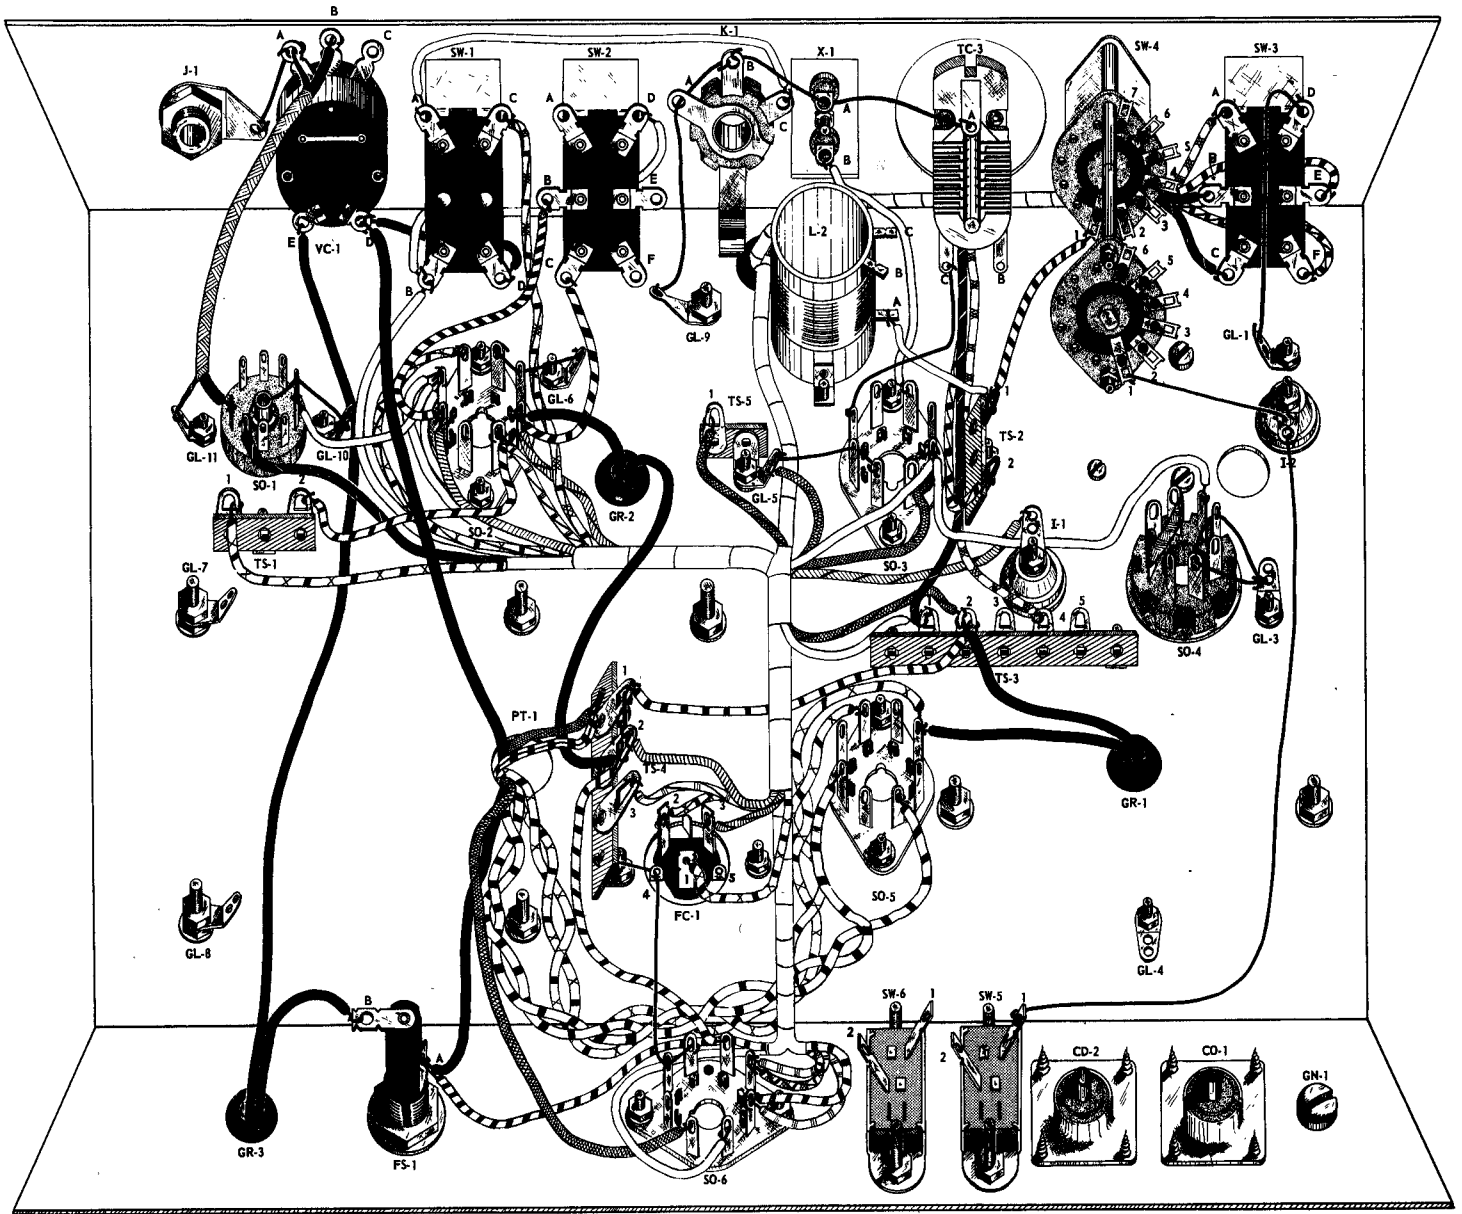
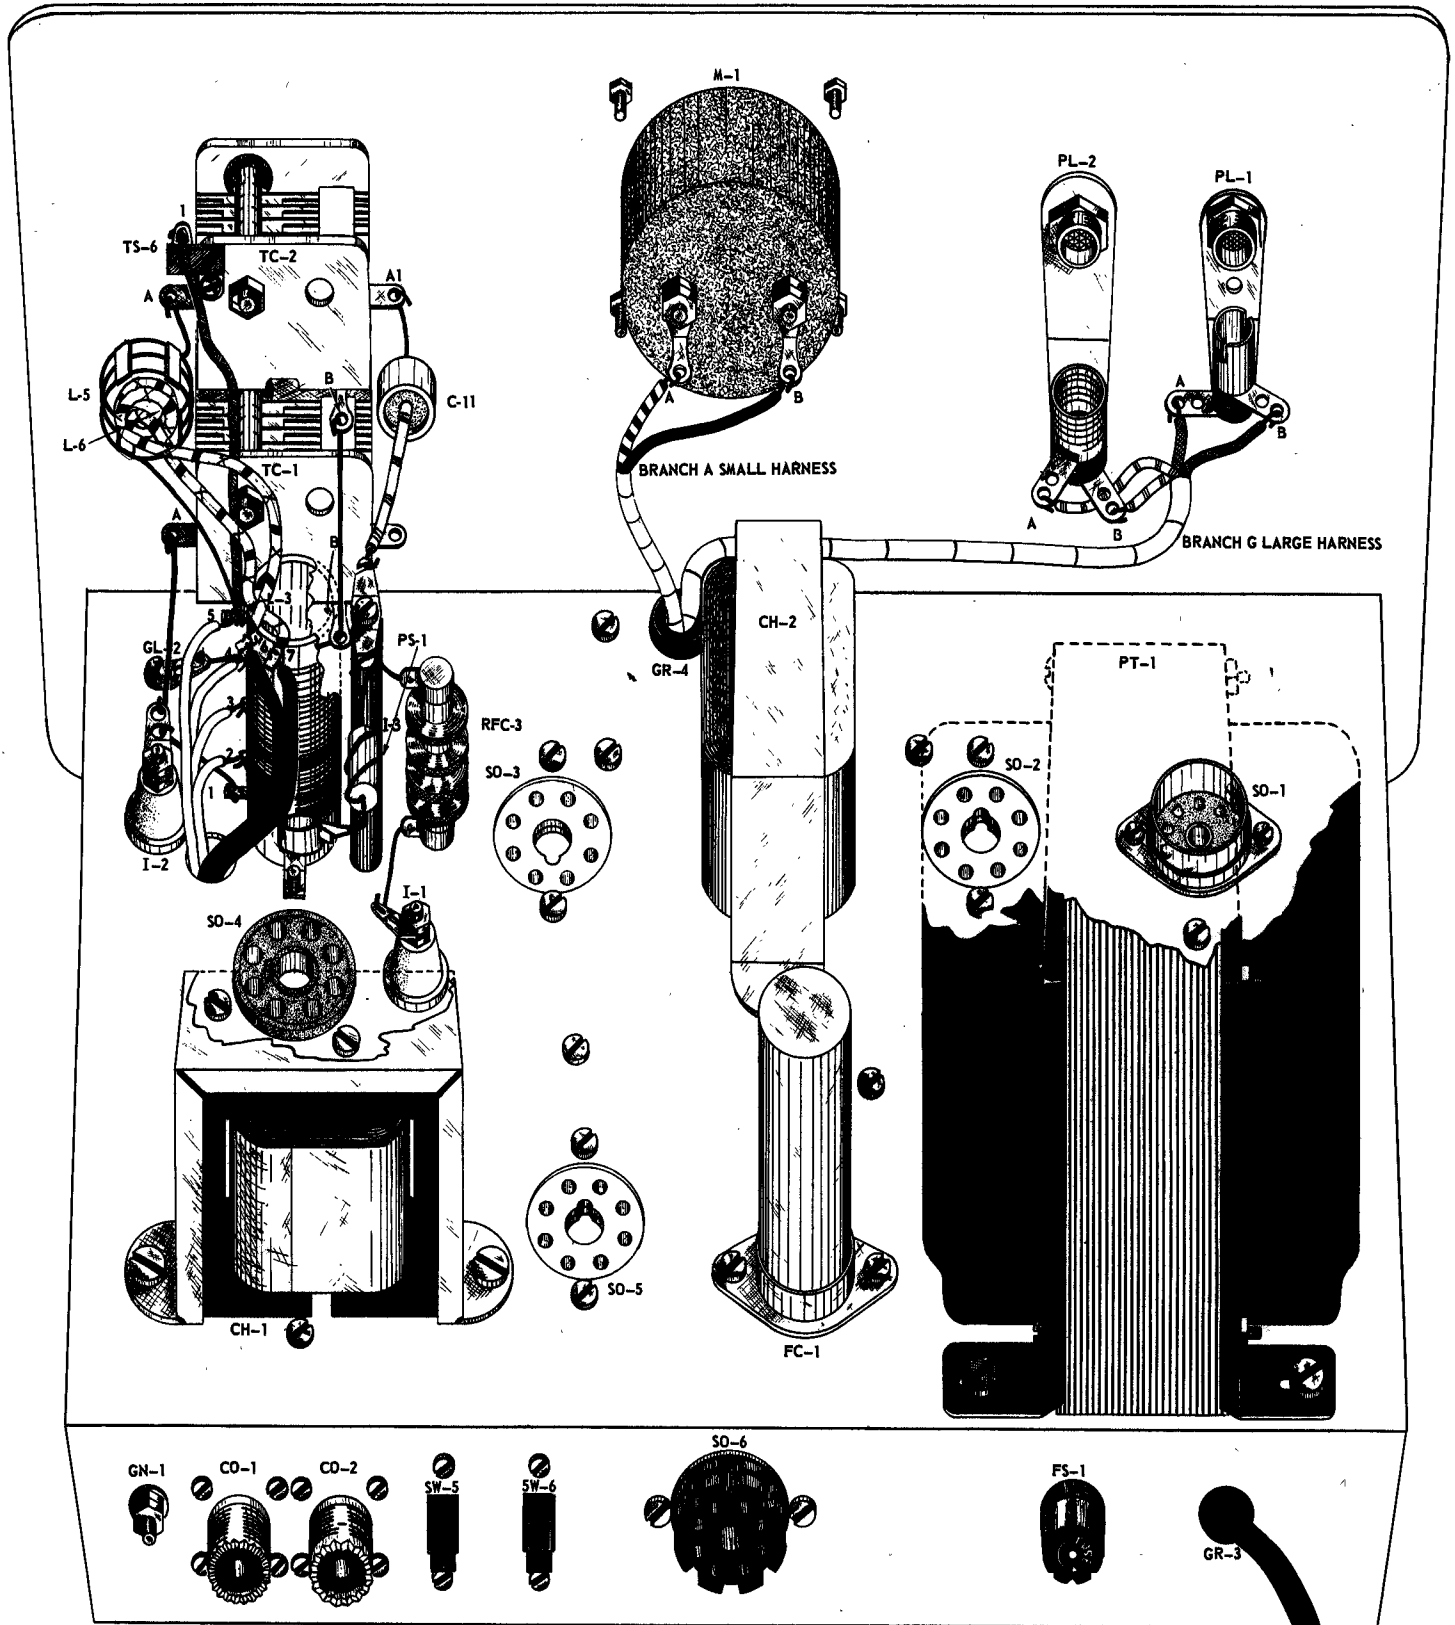

Figure 17. Wiring, Steps 1 through 103.
Figure 19. Top Of Chassis Wiring.
- 1. Place the chassis on a table, bottom side up with the rear apron of the chassis towards you as per Fig. 17.
- 3. Select one of the two BLACK leads. Route it back towards the fuse holder FS-1. Trim this lead to length and remove  $\frac{1}{4}$ " of insulation from the end. Connect the trimmed end of the lead to lug A of fuse holder FS-1. Fasten securely. (NS).
- 4. Route the other BLACK lead of transformer PT-1 toward the front of the chassis to lug D of the switch cover on VC-1. Trim this lead to length and remove  $\frac{1}{4}$ " of insulation from the end. Connect the trimmed end of the lead to lug D of VC-1. Fasten securely. (NS).
- 6. Connect one of the RED wires to pin 4 of socket SO-5. (S).
- 7. Connect the other RED lead to pin 6 of socket SO-5. (S).
- 20. Install the large harness assembly in the chassis as shown in Fig. 17. Route branch G through grommet hole GR-4 over to pilot lamp assemblies PL-1 and PL-2.
- 21. Route the heavy white lead in branch C around accessory socket SO-6 to pin 6 of this same socket. Trim the lead to length. Remove  $\frac{1}{4}$ " of insulation from the end and connect to pin 6 of socket SO-6. (S).
- 22. Select the red lead of branch C. Route this lead to lug A of the fuse holder FS-1. Trim to length and remove  $\frac{1}{4}$ " of insulation from the end. Connect to lug A of the fuse holder FS-1. (S).
- 23. Route a red lead and a blue lead of branch D to pin 5 of SO-6. Trim to length and remove  $\frac{1}{4}$ " insulation from the end of each lead. Connect both leads to pin 5 of SO-6. (S).
- 24. Route the two remaining leads of branch D to pin 4 of SO-6. These are the blue lead and the white lead with violet tracer. Trim the leads to length and remove  $\frac{1}{4}$ " insulation from the end of each lead. Connect both leads to pin 4 of SO-6. (S).
- 25. Route the yellow lead of branch B to lug 1 of filter condenser FC-1. Trim the lead to length and remove  $\frac{1}{4}$ " insulation from the end. Connect the lead to lug 1 of FC-1. (S).
- 26. Select the white lead with yellow tracer from branch B. Route to lug 2 of filter condenser FC-1. Trim to length and remove  $\frac{1}{4}$ " insulation from the end. Connect to lug 2 of FC-1. (S).
- 27. Select the white lead with black tracer from branch B. Route to lug 3 of filter condenser FC-1. Trim to length and remove  $\frac{1}{4}$ " insulation from the end. Connect to lug 3 of FC-1. (S).
- 28. Select the white lead with blue tracer from branch B. Route to lug 3 of tie strip TS-4. Trim to length and remove  $\frac{1}{4}$ " insulation from the end. Connect to lug 3 of TS-4. (NS).
- 29. Route the remaining lead of branch B (brown lead) to lug 2 of tie strip TS-4. Trim to length and remove  $\frac{1}{4}$ " insulation. Connect to lug 2 of TS-4. (NS).
- 30. Route the white lead of branch E to to lug 1 of tie strip TS-3. Trim to length and remove  $\frac{1}{4}$ " insulation from the end. Connect to lug 1 of TS-3. (NS).
- 40. Route the white lead with yellow tracer of branch A to pin 8 of socket SO-2. Trim to length and remove  $\frac{1}{4}$ " insulation from the end. Connect to pin 8 of SO-2. (NS).
- 41. Route the brown lead of branch H to to pin 6 of socket SO-2. Trim to length and remove  $\frac{1}{4}$ " insulation from the end. Connect to pin 6 of SO-2. (NS).
- 42. Route the white lead of branch H to lug B of switch SW-1. Trim to length and remove  $\frac{1}{4}$ " insulation from the end. Connect to lug B of SW-1. (NS).
- 43. Route the white lead with black tracer of branch H to pin 8 of socket SO-1. Trim to length and remove  $\frac{1}{4}$ " insulation from the end. Connect to pin 8 of SO-1. (NS).
- 44. Route the remaining lead of branch H (yellow lead) to lug 1 of tie strip TS-1. Trim to length and remove  $\frac{1}{4}$ " insulation from the end. Connect to lug 1 of TS-1. (NS).
- 45. Turn the chassis over so the rear apron is toward you and transformer PT-1 is on your right side. Refer to Fig. 19.
- 49. Turn the chassis upside-down again. Refer to Fig. 17.
- 56. Route the remaining lead of branch C (white lead with black tracer) to lug 1 of tie strip TS-3. Trim to length and remove  $\frac{1}{4}$ " insulation from the end. Connect to lug 1 of TS-3. (NS).
- 57. Route the white lead with black tracer of branch B to lug C of switch SW-3. Trim to length and remove  $\frac{1}{4}$ " insulation from the end. Connect to lug C of SW-3. (S).
- 58. Route the white lead with red tracer of branch B to lug F of switch SW-3. Trim to length and remove  $\frac{1}{4}$ " insulation from the end. Connect to lug F of SW-3. (S).
- 59. Route the red lead of branch B to lug E of switch SW-3. Trim to length and remove  $\frac{1}{4}$ " insulation from the end. Connect to lug E of SW-3. (S).
- 60. Route the black lead of branch B to lug B of switch SW-3. Trim to length and remove  $\frac{1}{4}$ " insulation from the end. Connect to lug B of SW-3. (S).
- 61. Route the orange lead of branch B to lug A of switch SW-3. Trim to length and remove  $\frac{1}{4}$ " insulation from the end. Connect to lug A of SW-3. (S).
- 63. Turn the chassis over so it appears as in Fig. 19.